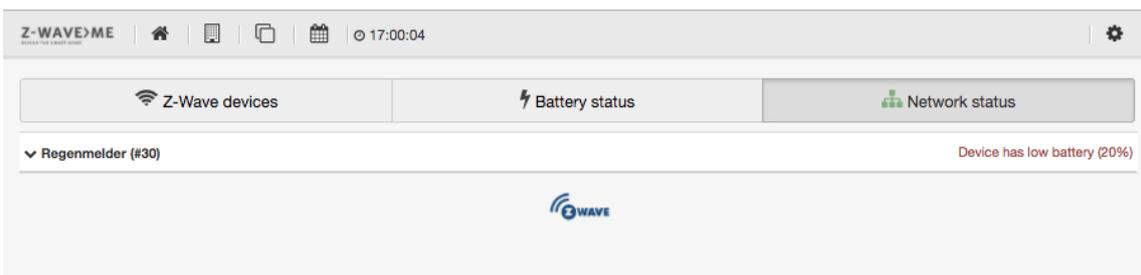

Figure 4.27: Z-Wave device network status
- Figure 4.27 shows a list of network status messages. This can be warnings for empty battery, devices lost, devices replaced, etc. Clicking on the device name lists all the elements created by this physical device.